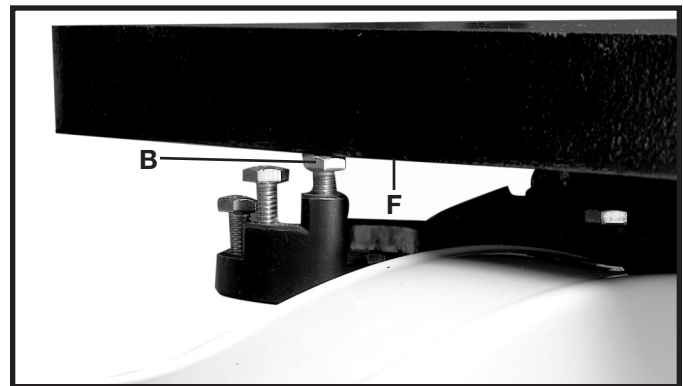

Fig. 45
2. Rotate the stop (B) Fig. 45 out of the way.
5. Rotate the stop (B) Fig. 45, until the tallest screw is under the table skirt.